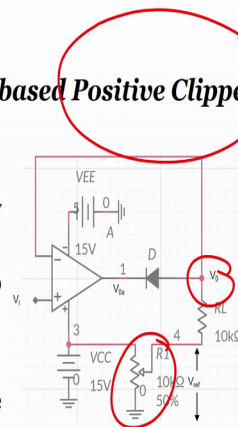

Figure 5
- Connect the circuit as shown in the Figure 5
So, we draw the circuit as shown in figure 5. We show we have we have we can draw the circuit as shown in figure 5. We apply voltage at the non-inverting terminal of the operational amplifiers. How much voltage we will apply? We will apply a 5 volts, peak to peak sine wave at 1 kilohertz to the V_1 .